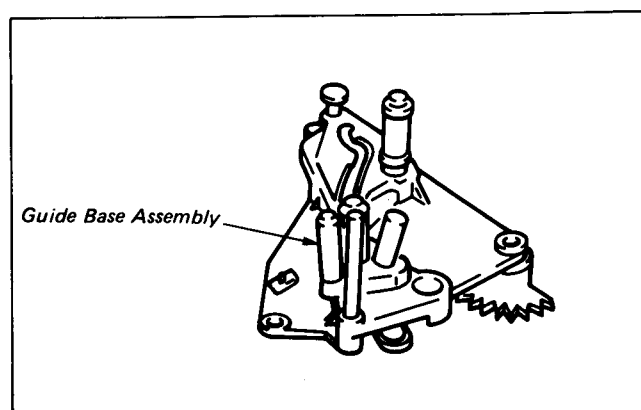

Fig. 8-29.
- 2) Set the guide base assembly of the slant guide chassis assembly in an unthreading condition (with the guide base assembly moved to the Camera section side) and remount it. (See Fig. 8-29.)